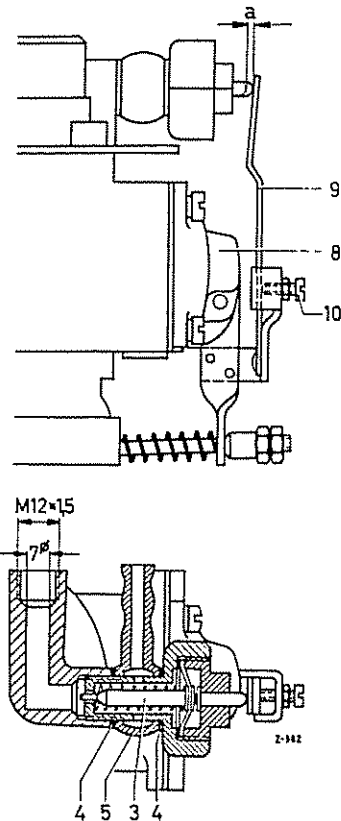

Fig. 07-0/24
3. Drill through the front part of the connector (2) on the carburetor cover which was hitherto closed, using a 7 mm diameter drill, and tap an M 12×1.5 thread (Fig. 07-0/24).
5. Fit the carburetor cover and screw the threaded union (6) for the fuel pressure line into the front connection of the carburetor cover. If necessary, use a new fiber sealing ring (see Fig. 07-0/25).
6. Screw the fuel return valve (3) with fiber sealing rings (4) and ring connector (5) into the side connection hitherto used for the fuel pressure line and tighten (see Fig. 07-0/24).